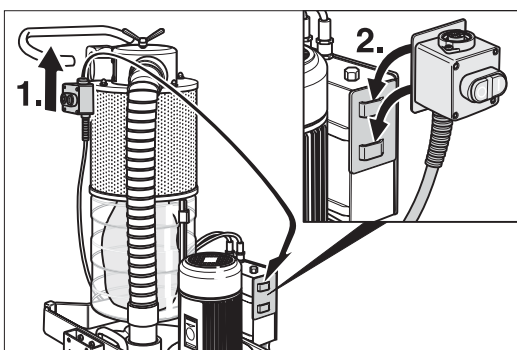

Fig. 19 Hook the on/off switch into the transport support on the motor switchbox.
- 4 Remove the on/off switch from the chassis and hook it into transport support on motor switchbox (Fig. 19).